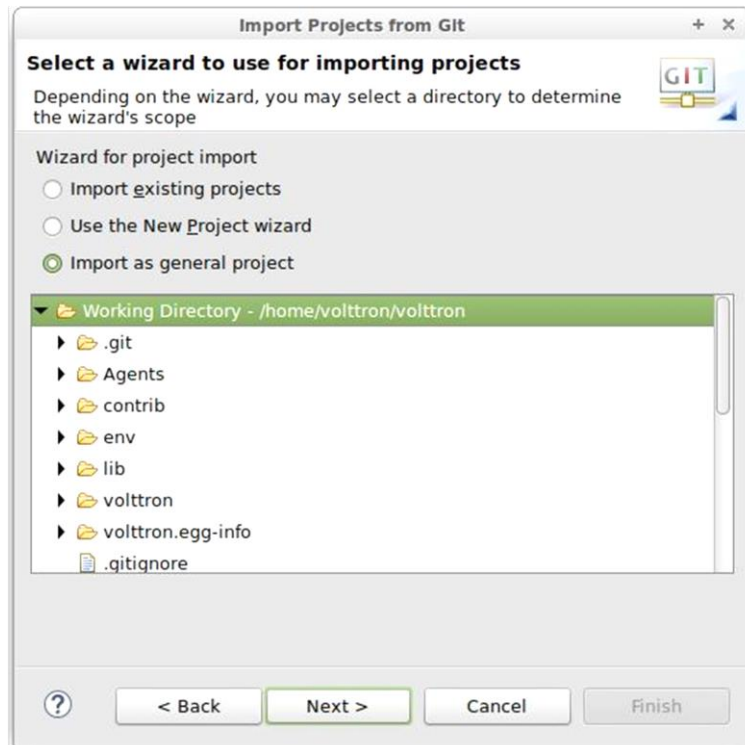

Figure 24: Checking Out OpenEIS with Eclipse from GitHub (continued)
7. Select Import as general project, select Next, then select Finish (Figure 24), the project will now be imported into the Workspace